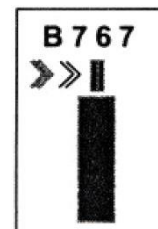

Figure 1
3.3 When the solid yellow closing rate field appears, the aircraft has been caught by the scanning unit. The scanning unit now checks that the Aircraft is the correct type and the display provides azimuth guidance information (see figure 1).